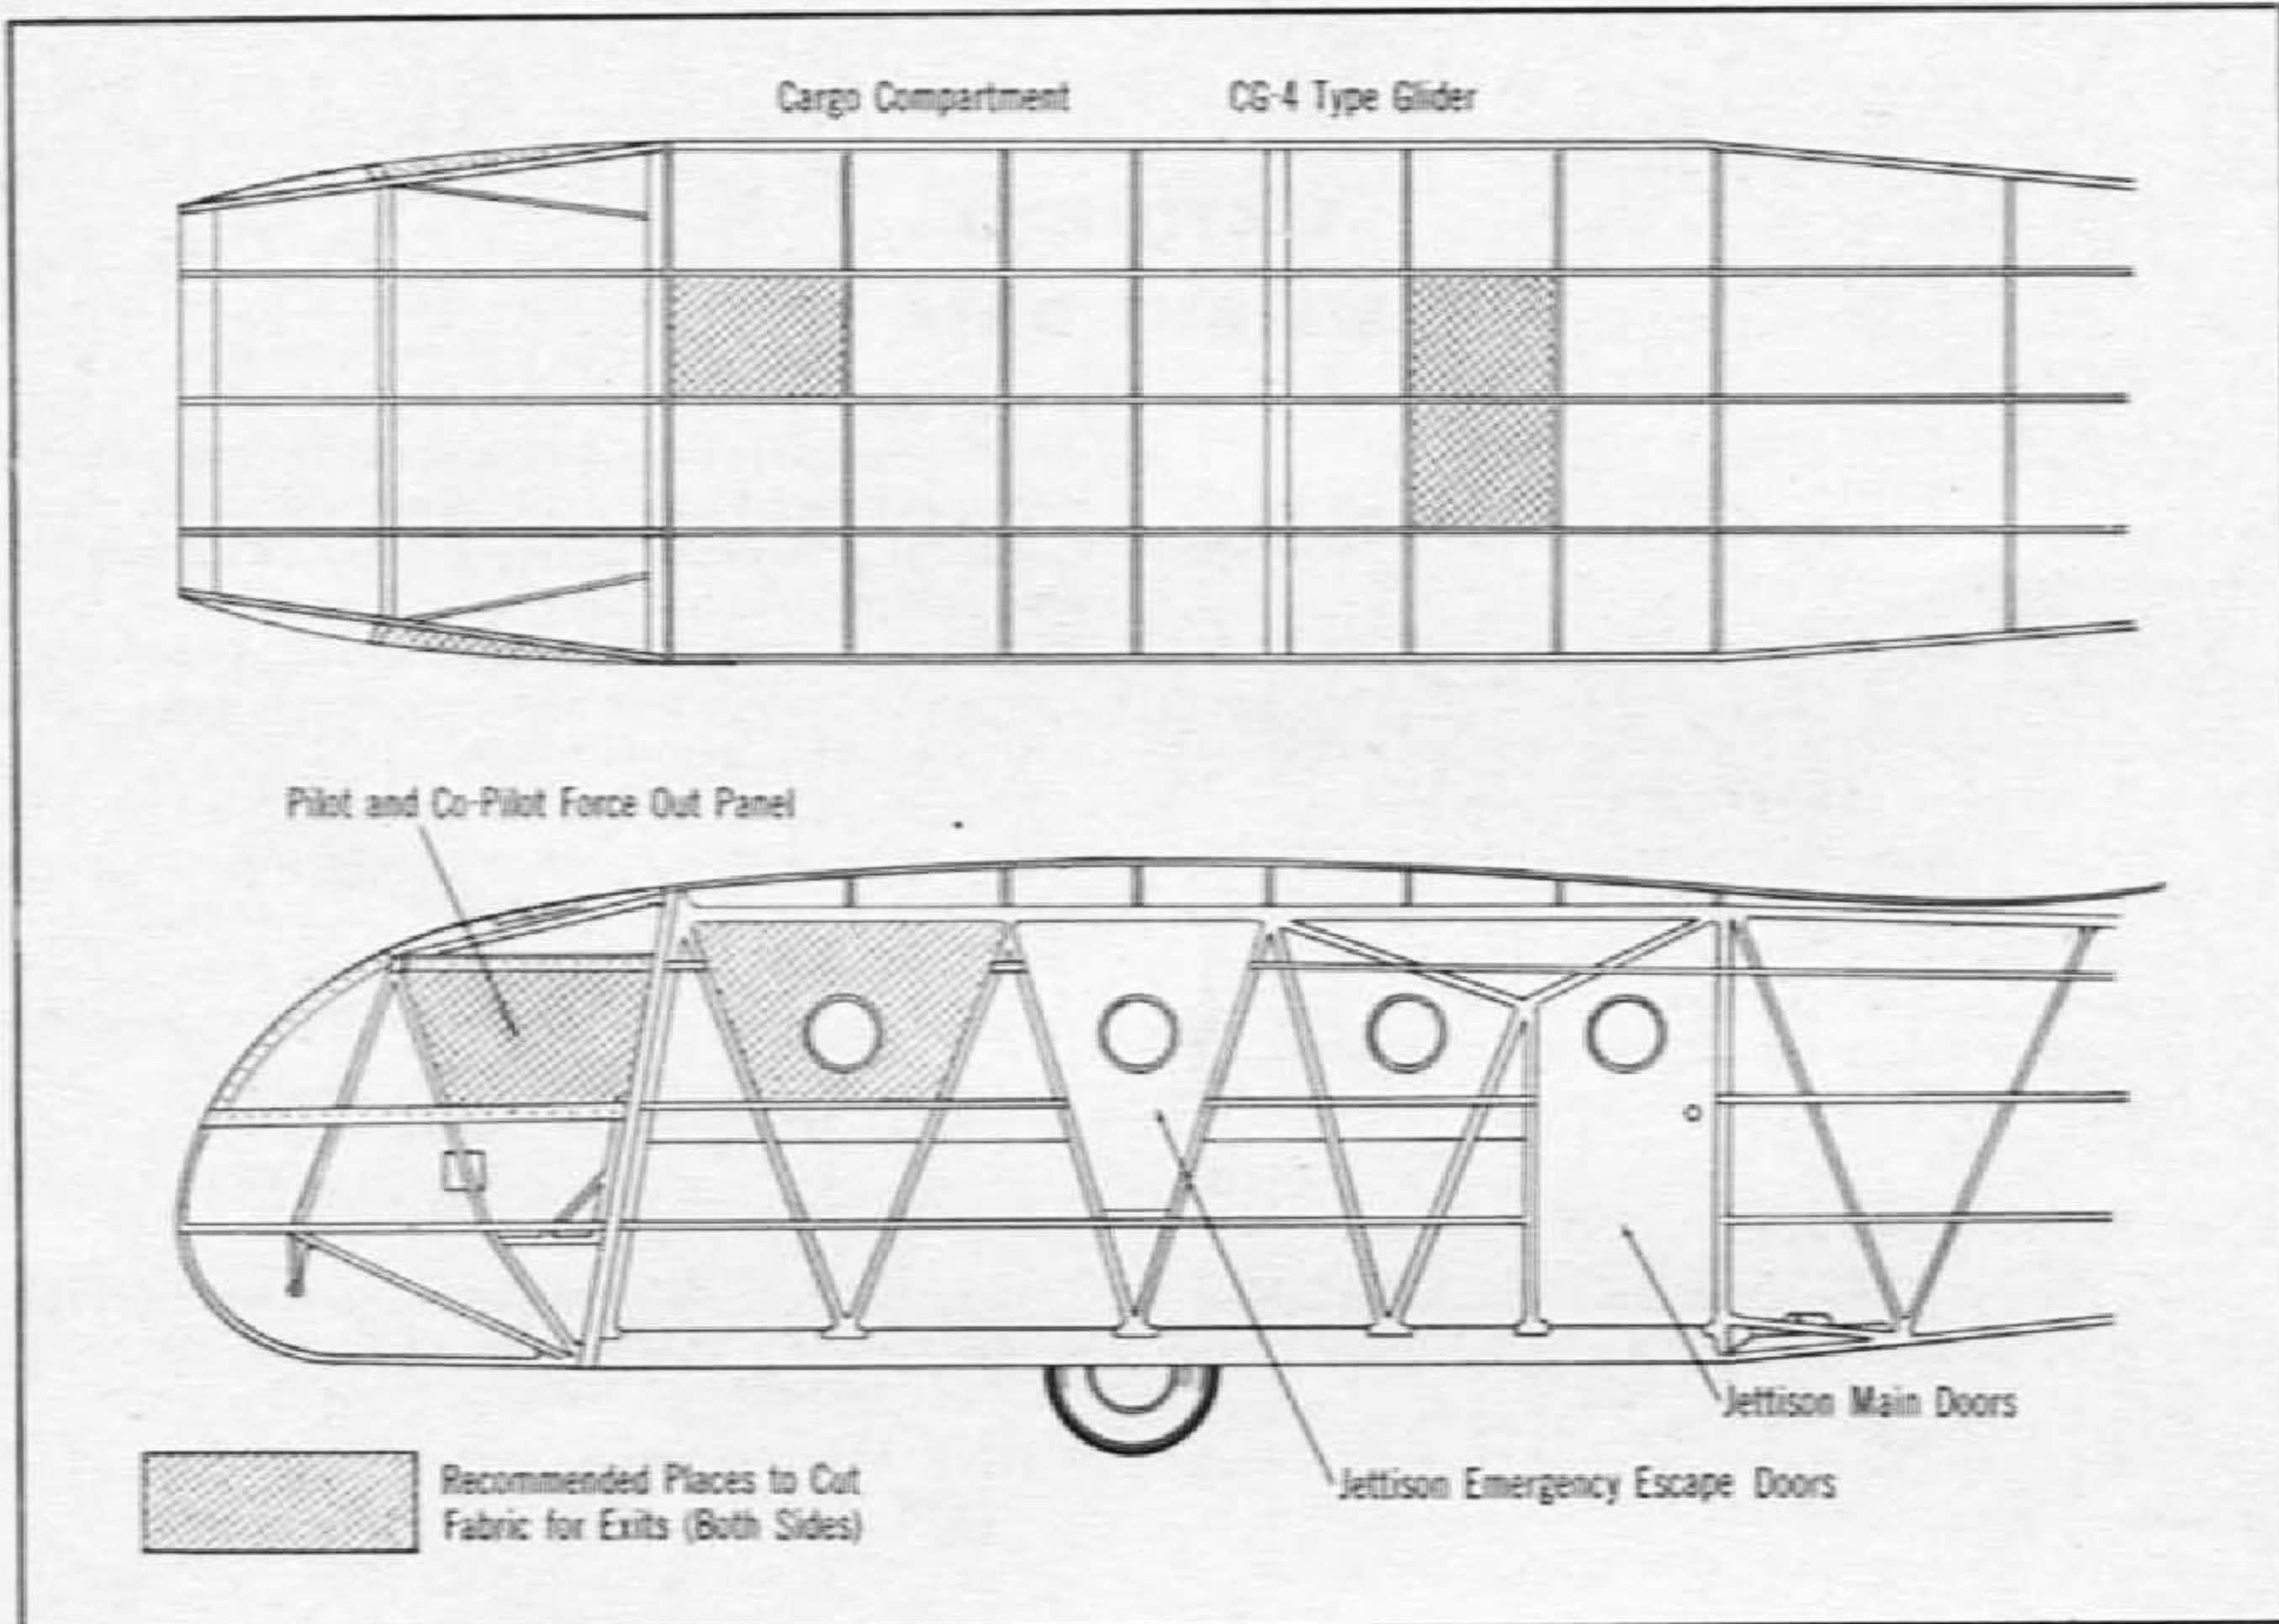

Figure 6—Emergency Exits
(1) Pilot warns crew as soon as he determines that ditching is necessary.
(2) Pilot instructs crew to jettison all doors and use bayonets to cut out exits in the roof or sides of the glider. (See figure 6.)
(3) Pilot instructs crew to throw all loose unnecessary equipment overboard.
(4) Pilot instructs crew to keep safety belts fastened until landing is accomplished.
(5) Copilot should knock out side windshield panel, unfasten parachute harness, make sure his safety belt is buckled, and then relieve the pilot of the controls so that he may accomplish the same.